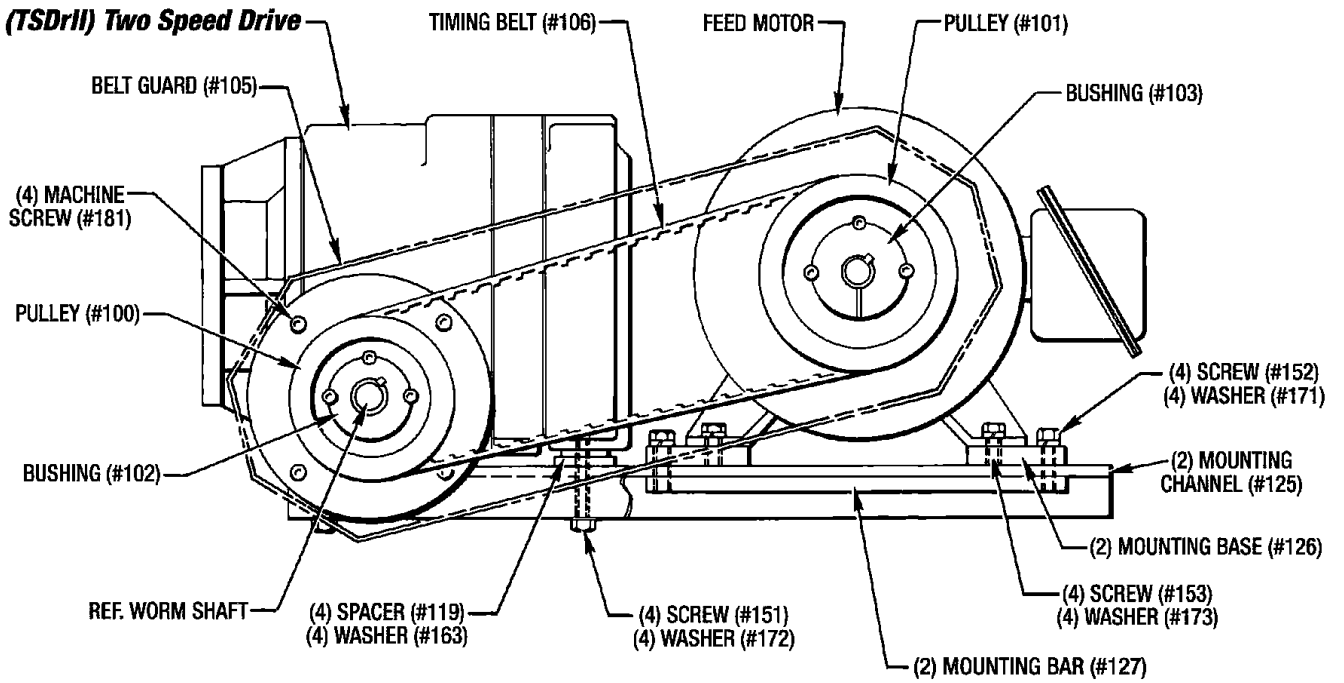

Figure 9.22 - Belt Drive (Rear Mounted Feed Motor)
- C. Rear Mounting (See Figure 9.22)
1. Attach (2) Mounting Channels (#125) to Drive Unit with (4) Washers (#172) and (4) Screws (#146) and also (4) Flat Washers (#163) placed between channels and Drive Unit.
2. Attach (2) Mounting Bases (#126) to Feed Motor with (4) Washers (#173) and (4) Screws (#153).
3. Set Feed Motor onto Mounting Channels (#125). Insert (2) Mounting Bars (#127) into Channels and attach Motor Bases with (4) Washers (#171) and (4) Screws (#152).